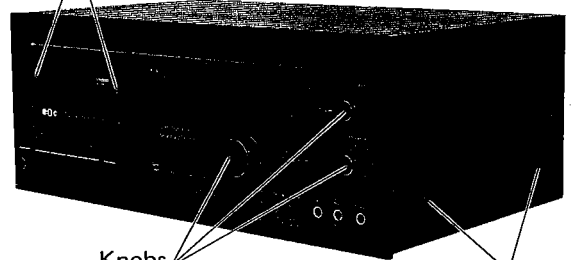

Figure 1
- (1) Remove four screws from both side of the wood cabinet as shown in Figures 1 and 2.